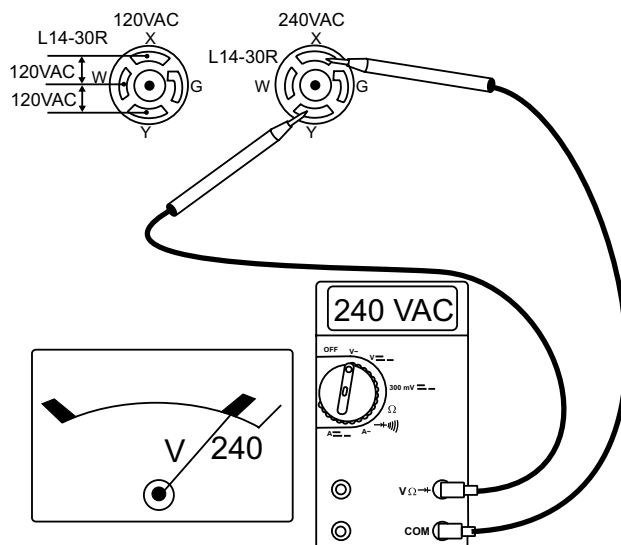

Figure 24. 120/240V L14-30R Receptacle
13. Read voltmeter on front panel of generator (Figure 24) and verify that 240 VAC is displayed. Using an external voltmeter as shown in Figure 24, verify that 240 VAC is present at the 120/240V, L14-30R twist-lock receptacle.